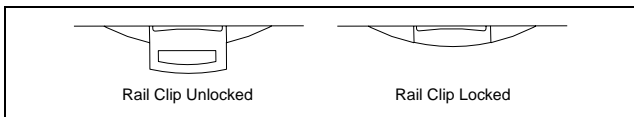

Figure 1. DIN Rail Clip
1. With a flat-bladed screwdriver, open the rail clip to the unlocked position as shown in Figure 1.